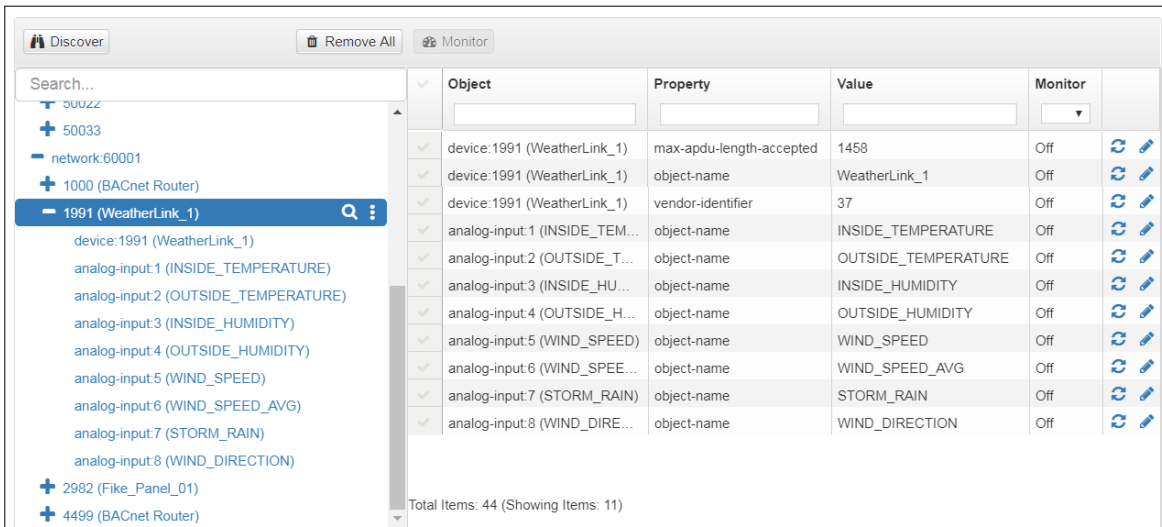

Figure 21: Full Device Sub-items
- To view the full details of a device, highlighting the device directly (in **Figure 21** “1991 WeatherLink_1”) and click the Explore button (🔍) that appears to the right of the highlighted device as a magnifying glass icon or double-click the highlighted device.